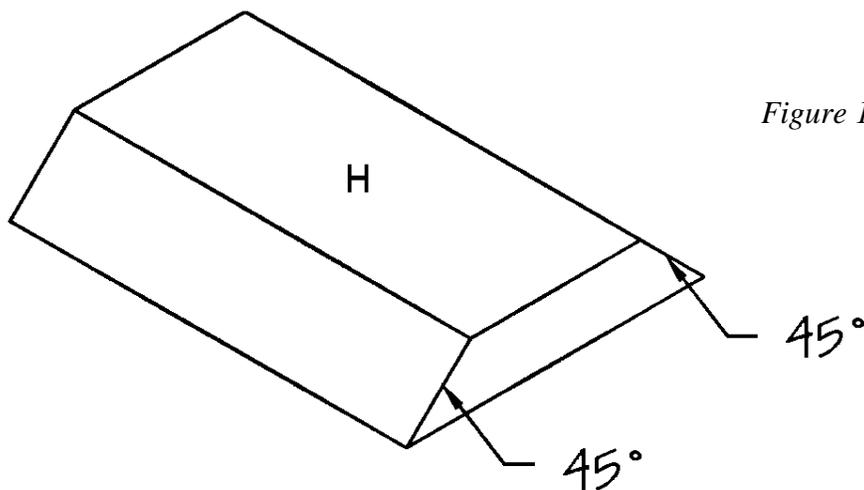

Figure 11
4. Repeat Steps 2 and 3 to cut out the remaining Bench Leg (F).
5. Cut one Bench Top (G) from 2 x 10 pine, measuring 60 inches.
6. Position the two Bench Legs (F) on edge with the cutout against the work surface, parallel to each other and 45 inches apart. Place the bench top (G) over the Bench Legs (F). The Bench Top (G) should overhang each of the Bench Legs (F) by 6 inches. Screw through the Bench Top (G) into each of the Bench Legs (F), using three 2-1/2-inch wood screws.
7. Cut two Bench Braces (H) from 2 x 10 pine, each measuring 7 inches.
8. Miter the ends of the Bench Braces (H) at opposing 45-degree angles, as shown in *Figure 11*.